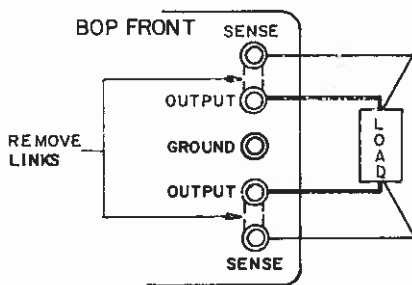

FIG. 3-3 LOAD CONNECTION, FRONT PANEL
- 3-7 **REMOTE ERROR SENSING.** For applications requiring specified d-c performance directly at the load, remote error sensing may be used to compensate for voltage drops along the load connecting wires. Up to 0.5V per load lead can be corrected. Error sensing may be used either from the front binding posts or at the rear barrier-strip. In the latter case, the front links between output and sensing terminals must be removed. (Refer to FIGS. 3-3, 3-4.)